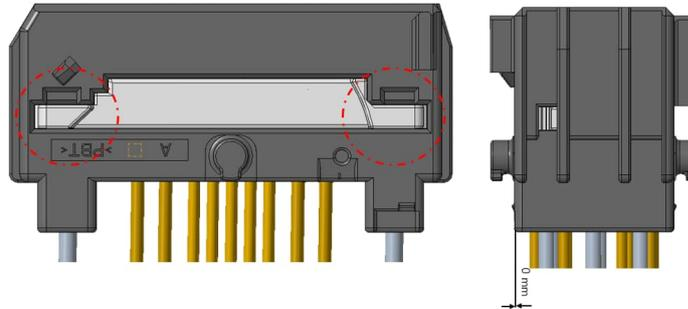

Fig. 11
(1) After all cavities are filled by Contacts properly, insert TPA into Housing to deep end and complete Final Lock condition as shown in Fig. 11.